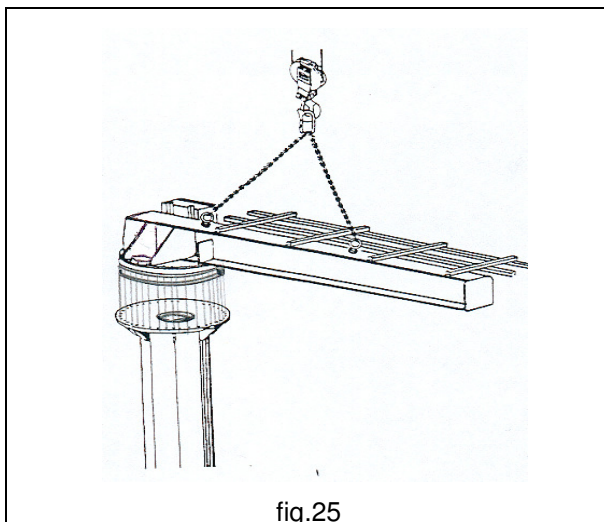

fig.25
5. Rest the thrust bearing on the flange welded on the column making coincide the holes between thrust bearing and plate. (fig.25)